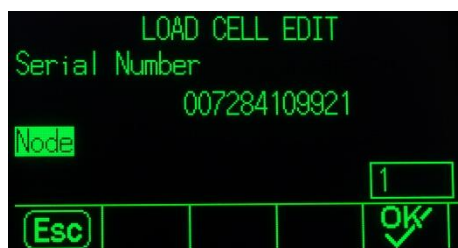

Figure 3-11: Manual Address Load Cell Edit Screen
6. After pressing the EDIT softkey , the Load Cell Edit screen will appear as shown in Figure 3-11.